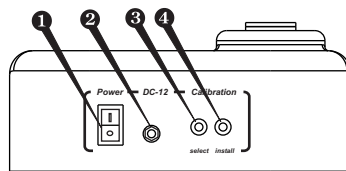

Fig.1 Rear panel
Plug the external power supply unit into the 12 V socket at the rear side of the unit (fig.1/2).
- 3.4.1. Switch ON (position **I**) the unit with the **Power** switch (Fig.1/❶) on the rear panel.
- 3.4.2. Press the **Select** button (fig.1/❷) on the rear panel (use a thin pin of maximum diameter 2 mm for pressing the **Select** and **Install** buttons). A flashing "0.5" indication will be shown on the display, showing that the unit is ready to save calibrations value of the first point 0.5 McF.
- 3.4.4. Press the **Install** button using a pin (fig.1/❸). First point "0.5" will be saved in the unit memory and the next calibration value will be displayed (flashing 1.0 indication will be displayed).
- 4.2. Switch ON the unit using the Power switch (Fig. 1/●) on the rear panel (position I).